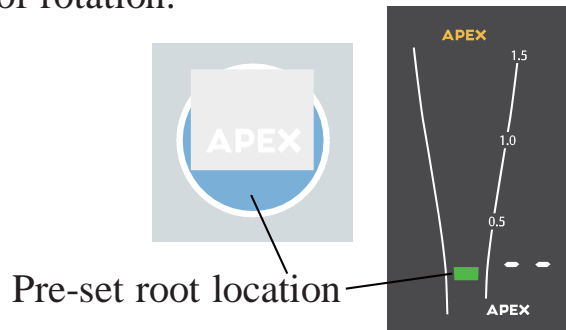

Fig. 4.10
- c) Press APEX key to set the apex location. (Fig. 4.10)